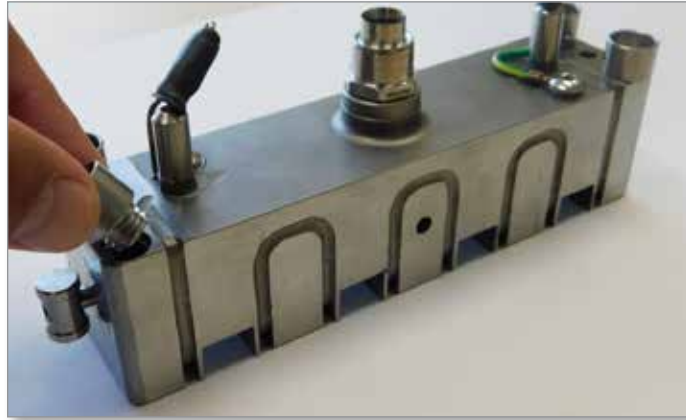

Figure 5-96 Install bushings
3. Install the four support bushings into the bottom of the Melt-Cube manifold and hand tighten. See Figure 5-96.